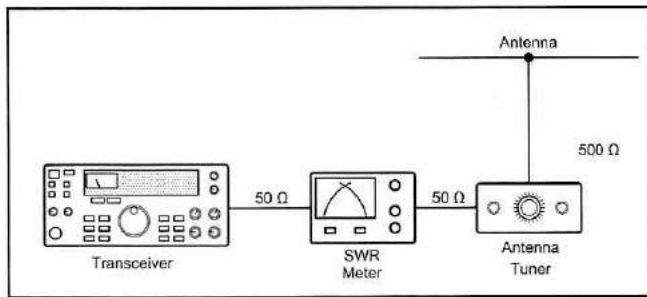

Fig 2-4—Placement of SWR meter with optional antenna tuner in the line.
**A** The SWR/power meter should be connected between the output of the amplifier and the antenna. If you're using an antenna tuner without a built-in meter, connect the SWR/power meter between the amplifier and the tuner. Use the shortest cables possible. Also, make sure the meter is set to measure high power before you transmit! See Fig 2-4.